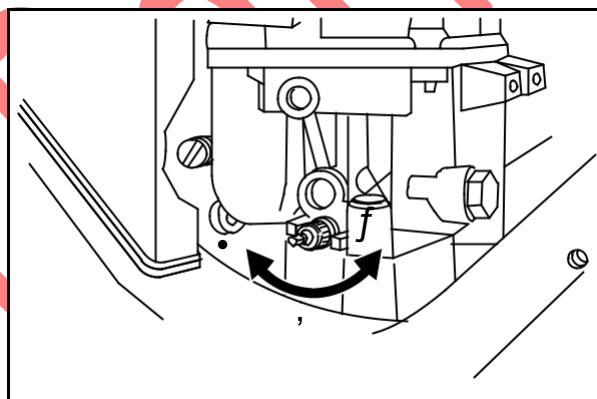

Fig. 11
Turn idle mixture screw slowly CLOCKWISE (1) until engine speed just starts to slow (LEAN mixture), Fig. 11.